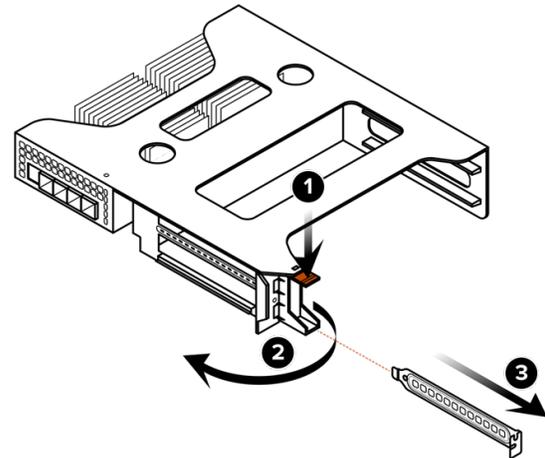

Figure 18-1. Removing Riser 0 Blanks
1. Open the plastic retaining clip on the left side of riser 0, as shown on Figure 18-1.